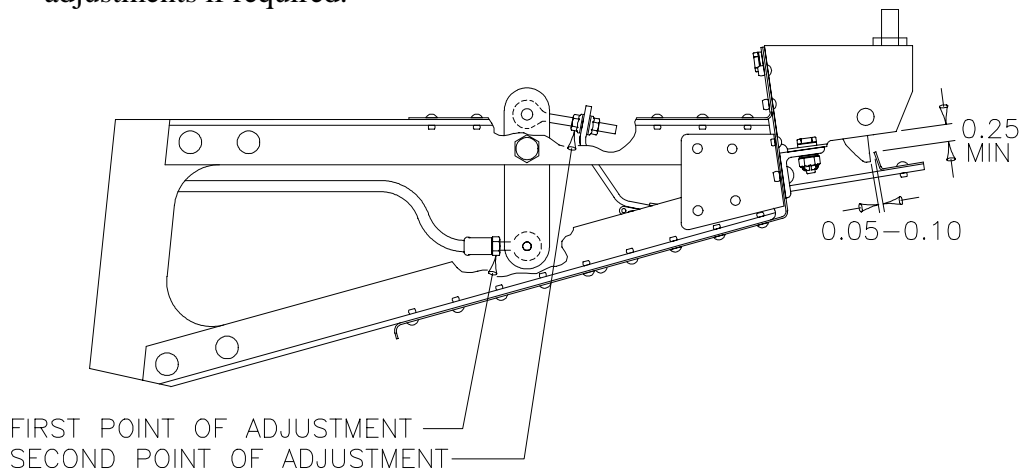

Figure 1: Measurements and Adjustments
- (i) Ensure release rod stop is 0.050 to 0.100 inch aft of the rudder lock cam follower (see Figure 1). This clearance determines the elevator angle at which the rudder lock releases. A clearance of 0.050 to 0.080 will cause the rudder lock to release at